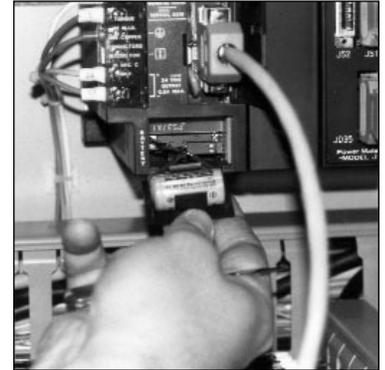

Fig. 16
2. Detach the cover of the battery compartment of the RAM unit. (See Fig.16)